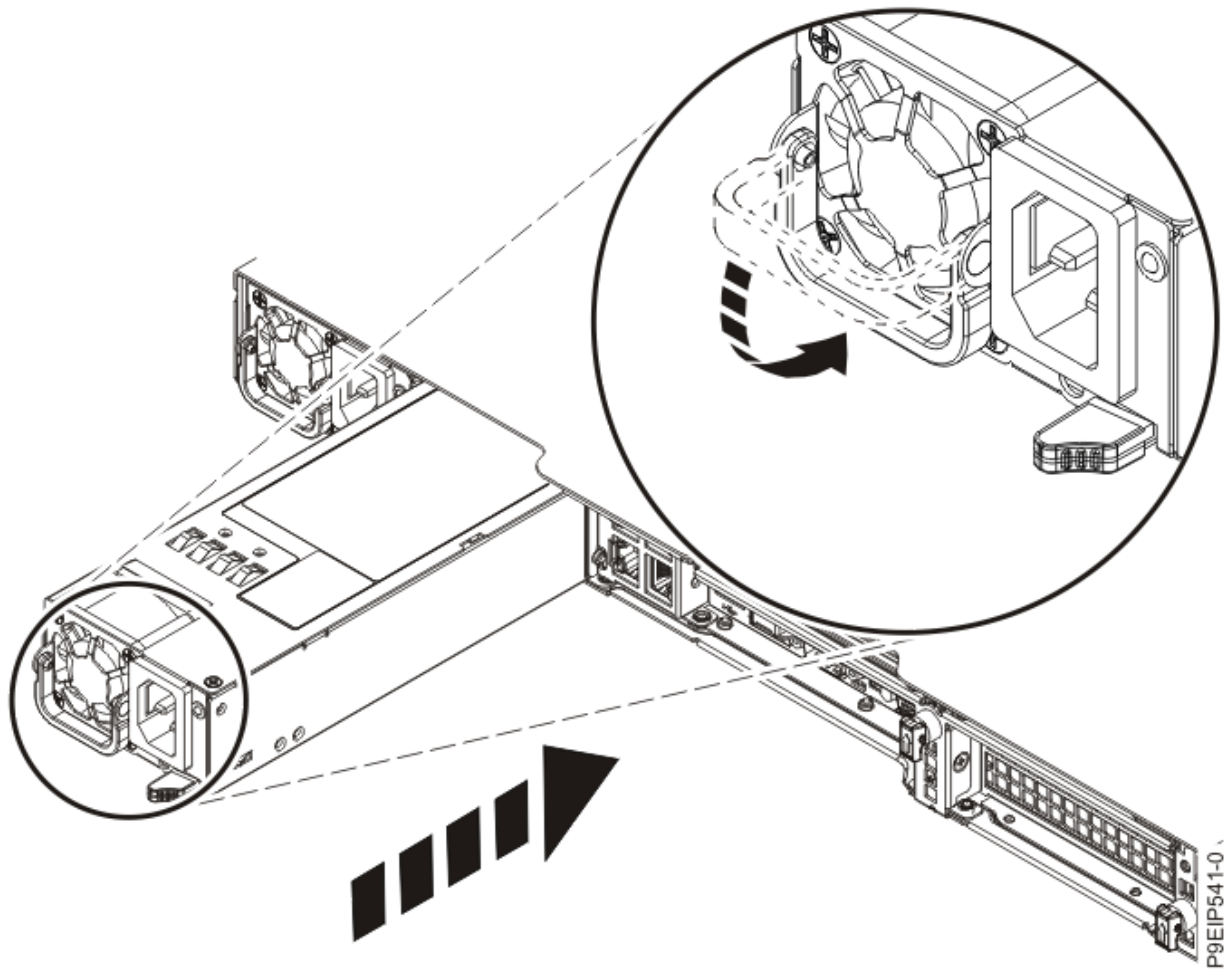

Figure 30. Replacing a power supply in the system
2. Align the power supply with the bay as shown in Figure 30 on page 34. The fan is on the left; the plug is on the right. Slide the power supply into the system until the latch locks in place.